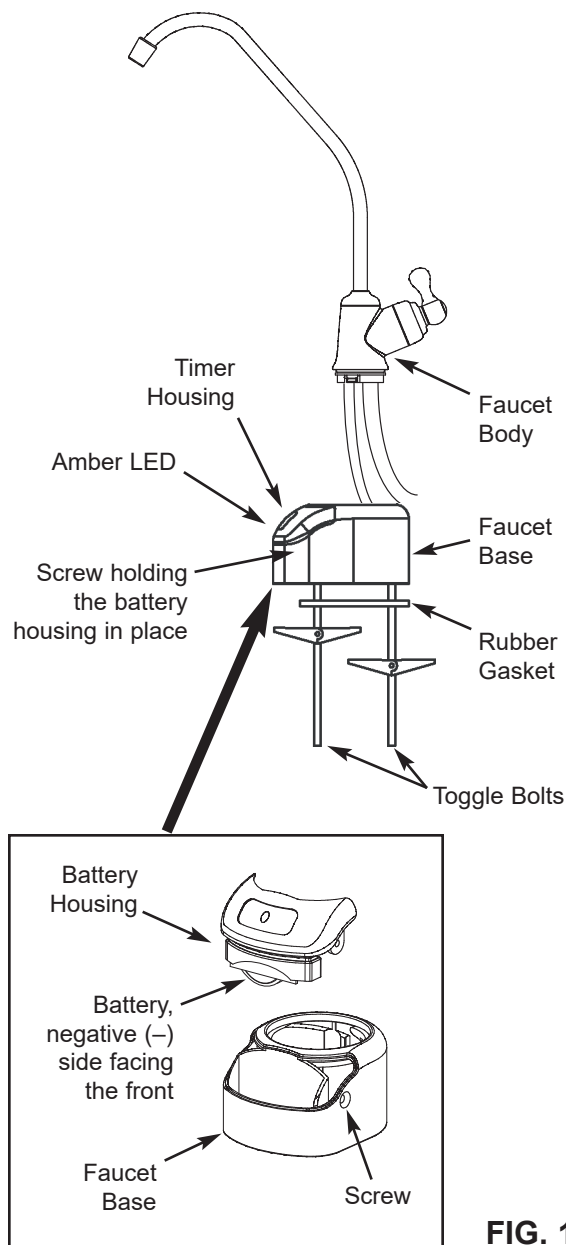

FIG. 16
1. Locate and organize your RO faucet install parts. Refer to Fig. 16.
2. Press the battery housing upward from the front faucet base until it releases from the faucet base. See Fig. 16.
5. Re-install the battery housing and firmly tighten the mounting screw. See Fig. 16.